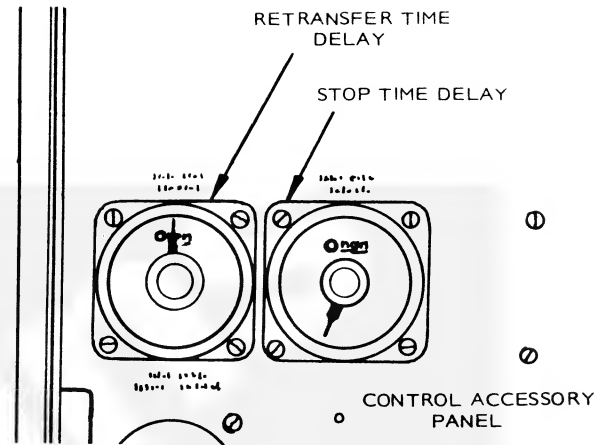

FIGURE 21. STOP AND RETRANSFER TIME DELAY RELAYS
2. Set the time delay by turning the adjustment knob in the center of the delay. See Figure 21.